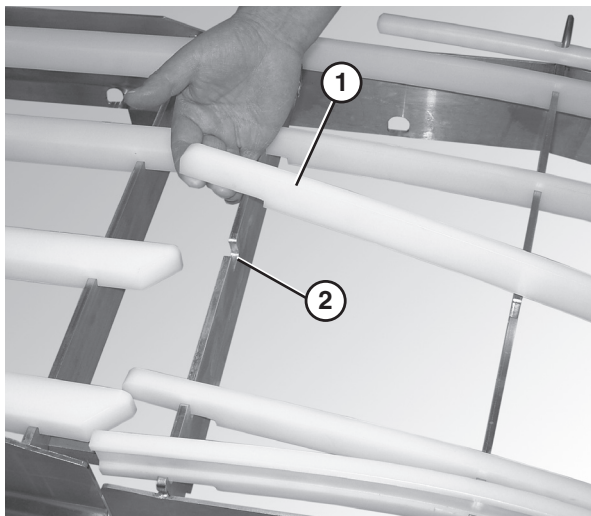

Figure 37
3. Insert the wear strips (**Figure 37, item 1**) into the appropriate slots in the frame (**Figure 37, item 2**), starting with the shortest wear strip on the inside of the curved section and working outward to the longest.